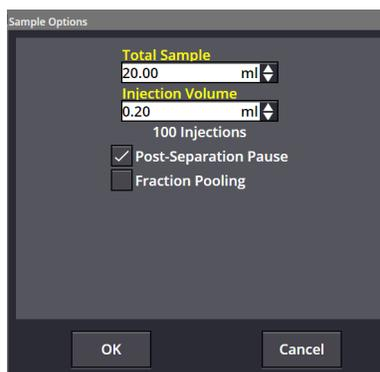

Figure 3-9 The Sample Options window
3. Select a sample to open the SAMPLE OPTIONS window (Figure 3-9).
4. Enter the TOTAL SAMPLE volume and INJECTION VOLUME for each run. To initially fine-tune the method, enter a small injection volume such as 0.2 mL (see Figure 3-9), as you will be able to change it later.